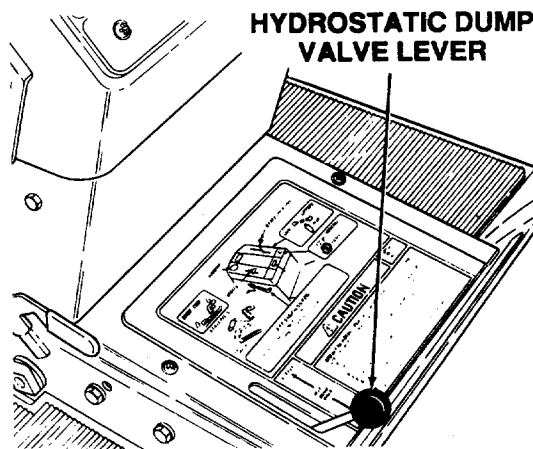

Figure 10
2. To disengage the dump valve, release the lever. (Refer to Figure 10.)